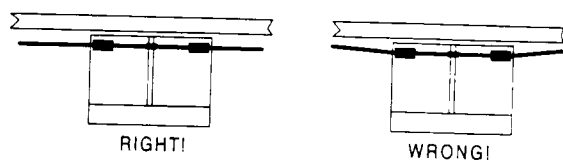

FIGURE 1.9.4C
5. Adjust the chain bolts to tighten the chain. The chain should sag no more than one (1) inch per 10 feet of travel. Do not over tighten the chain. **IMPORTANT!! Be sure that the chain is parallel to the gate (figure 1.9.4C). Installing the chain in any other manner will cause excessive noise, chain idler wear and chain stretching.**